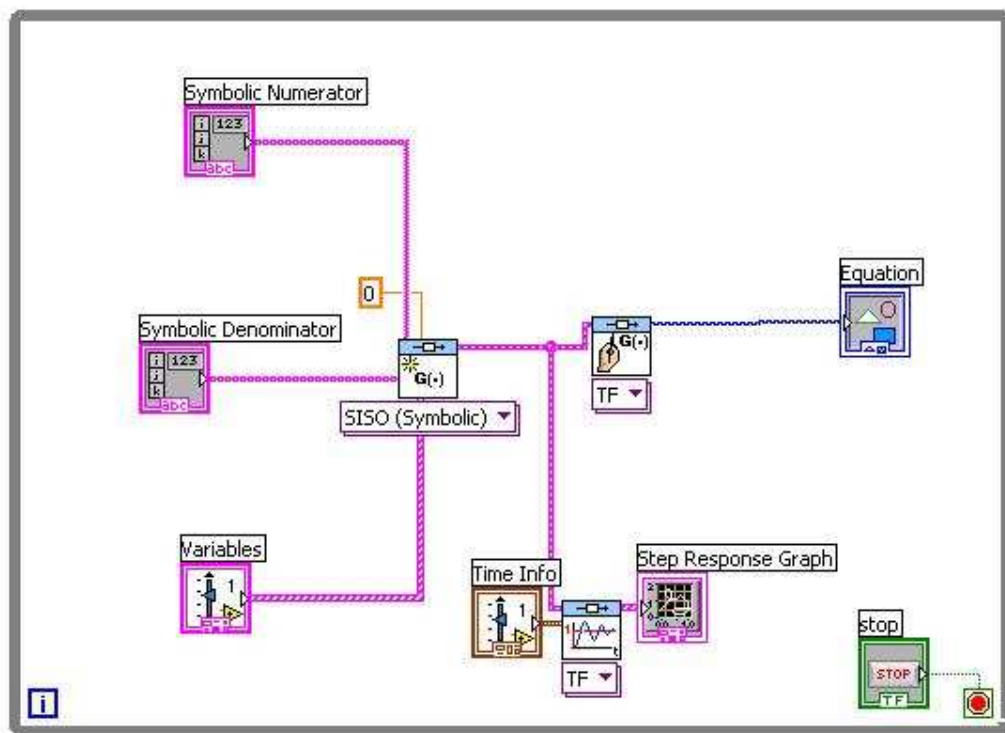

Figure 2:
- Your block diagram will be similar to that shown in Figure 2.